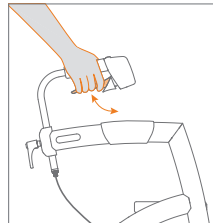

Figure 22: Release the parking brake.
- d. To remove the walker from the parking position, squeeze the hand brakes again and release them (**Figure 22**). The rollator is not in parking position anymore.